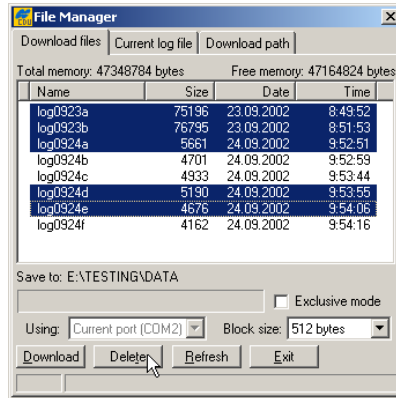

Figure 5-14. Delete Files
3. Click **File ► File Manager**, and select the file(s) to delete on the *Download files* tab (Figure 5-14 on page 5-9).
4. Click **Delete** (Figure 5-14 on page 5-9).